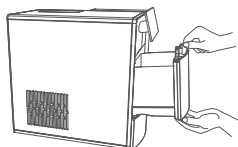

Figure 12
2.2.2 Lift the ice bucket upwards vertically (see Figure 12).